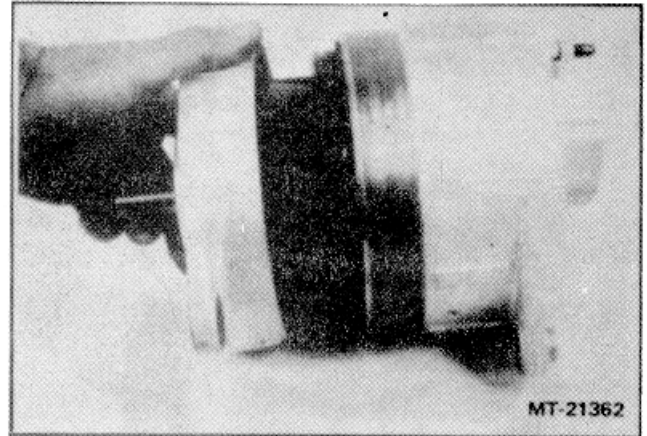

Figure 7 - Removing Drive End Housing and Rotor.
6. Remove rotor and drive end housing assembly from stator and slip ring end housing assembly. If drive end housing binds on stator, loosen by tapping gently on mounting ear with fibre hammer. Be sure that drive end housing separates from stator and that stator remains attached to slip ring end housing to avoid damage to stator leads (See Figure 7).